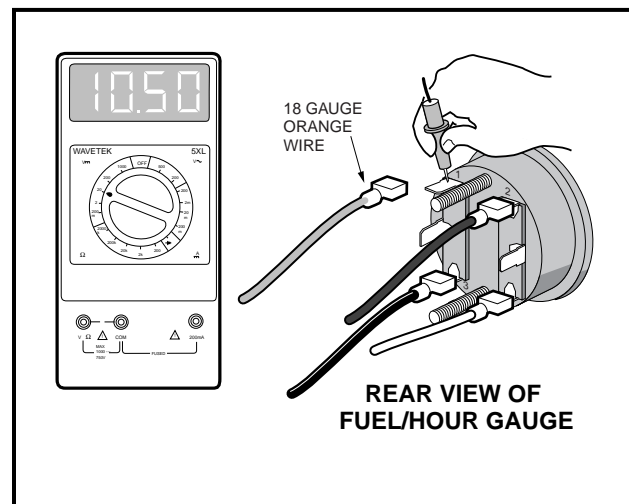

Figure 11-45 Test Fuel Gauge Voltage
9. Place the red (+) probe of the multimeter on the (1) terminal of the fuel gauge. Voltage should read between 10.0 volts and 10.5 volts. If the reading is incorrect, replace fuel gauge (**Figure 11-45, Page 11-36**).